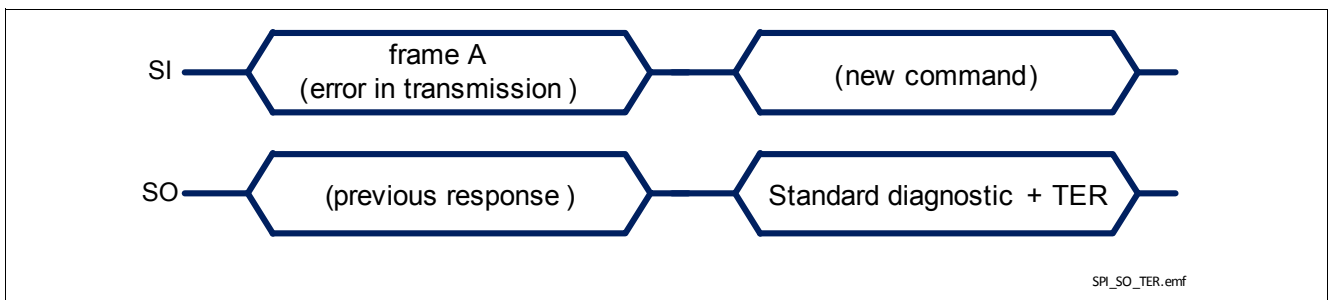

Figure 9-8 BTS54040-LBA response after a error in transmission
- in case an error in transmission happened during the previous frame (for instance, the clock pulses were not multiple of 8), shown in Figure 9-8